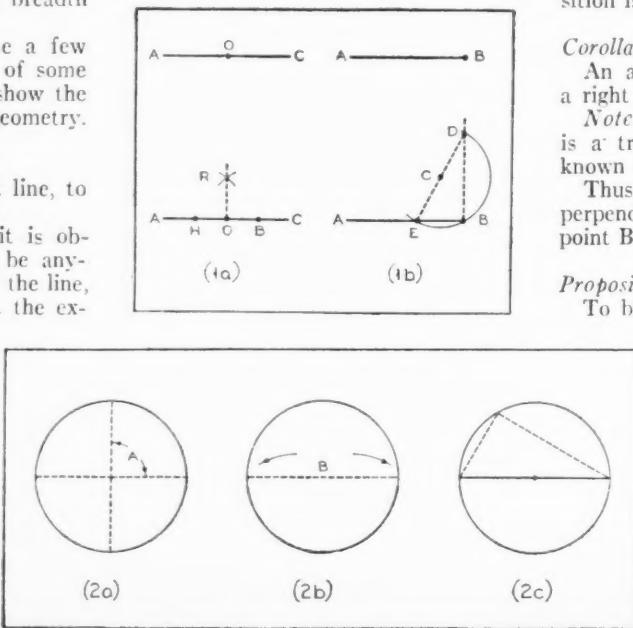

Figure 1 (above). Figure 2 (below)
With reference to Figure 1, it is obvious that the given point may be anywhere between the extremities of the line, such as O in the line AC, or at the extremity of the line, such as B in the line AB.
1. Let O be the given point in line AC. (Figure 1 (a)).
2. Let B be the given point in line AB. Figure 1 (b).
Thus, the line DB of Figure 1 (b) is perpendicular to the line AB at the given point B.